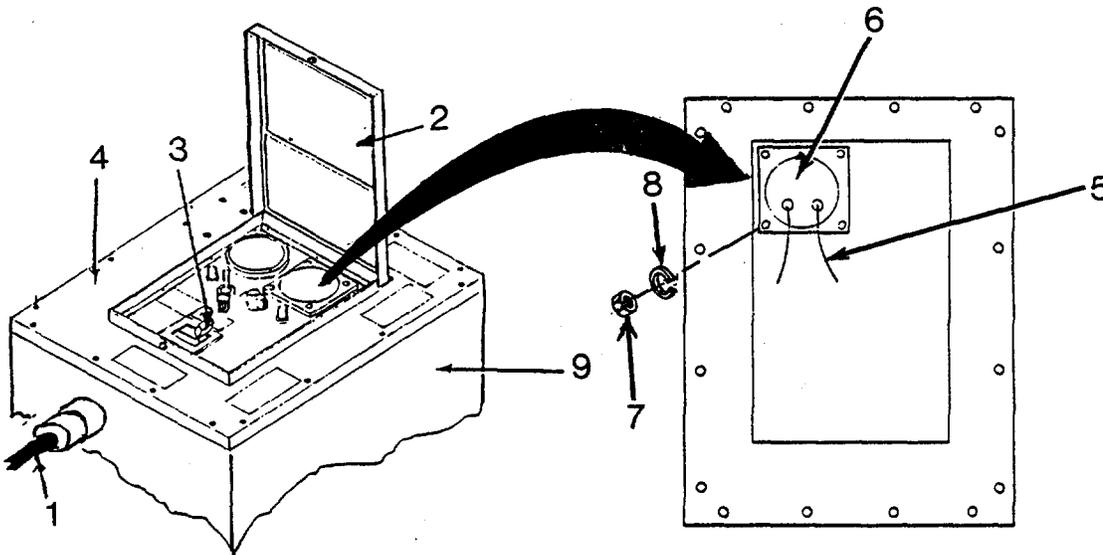

Figure 4-25. Replacing Voltage Meter,
- g. Repair by replacing Voltage Meter, Power Distribution Box Assembly. (See figure 4-25.)
- (1) Request generator operator shut down generator and disconnect main power cable (1).
- (2) Raise control panel cover (2) and request Module C supervisor place circuit breaker (3) in OFF position.
- (3) Remove control panel assembly (4). (See a. above.)
- (4) Tag and disconnect terminal wires (5) from voltage meter (6).
- (5) Remove nuts (7), lockwashers (8), and voltage meter (6).
- (6) Position replacement voltage meter (6) and secure with lockwashers (8) and nuts (7).
- (7) Connect terminal wires (5) to voltage meter (6) and remove tags.
- (8) Secure control panel assembly (4) to power distribution box assembly (9). (See a. above.)
- (9) Request generator operator connect main power cable (1), and turn on generator. Test operation, and request Module C supervisor place circuit breaker (3) in ON position.